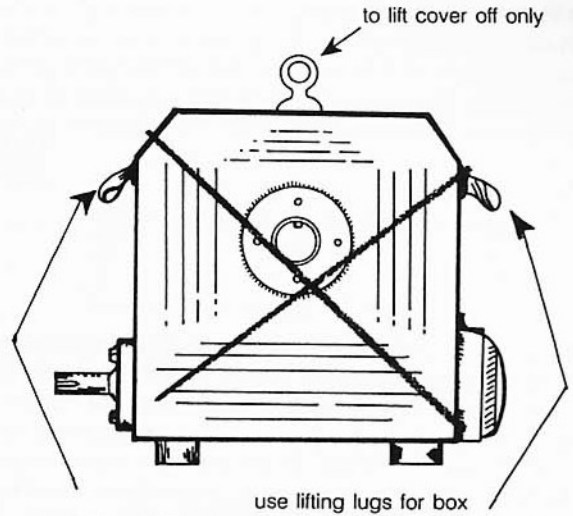

Figure 34 Use lifting lugs for gear box
- Lift a heavy worm reducer box by the eye bolts, provided for the cover. Use the lugs on the lower half (Fig. 34).